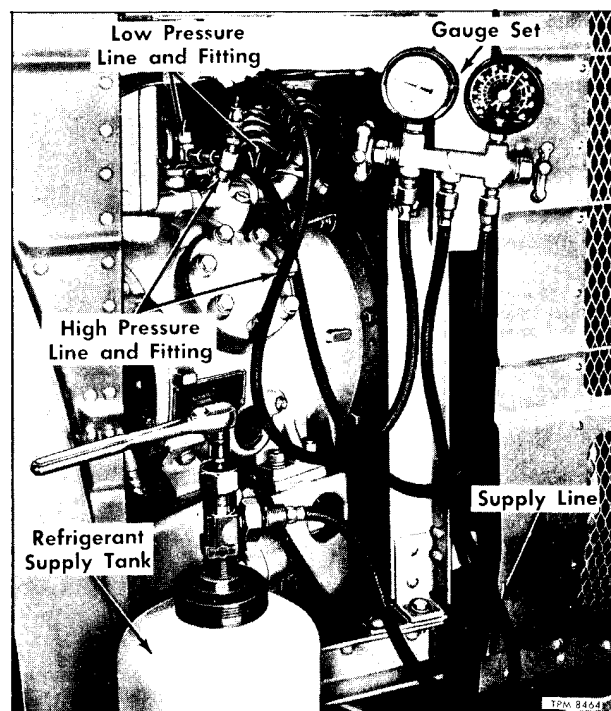

Figure 82—Charging Refrigerant System
1. Refer to figure 82, which shows lines and gauge set properly installed. Install gauge set to test gauge fittings as shown.